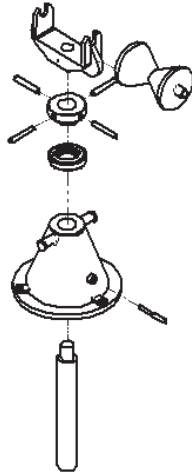

Figure 11-25 Exploded view
5. Place the view on the drawing sheet. An exploded view is shown in Figure 11-25.